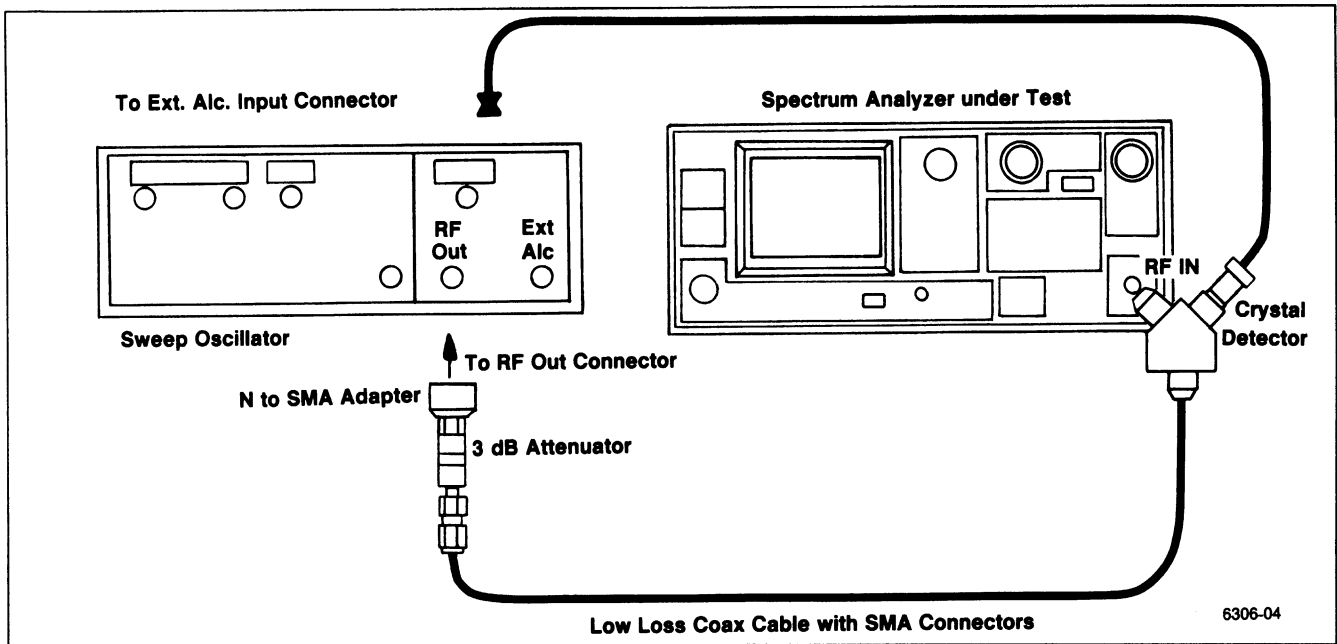

Figure 5-20. Test equipment setup for band leveling adjustment.
d. Connect test equipment as shown in Figure 5-20. Set the Spectrum Analyzer controls as follows: